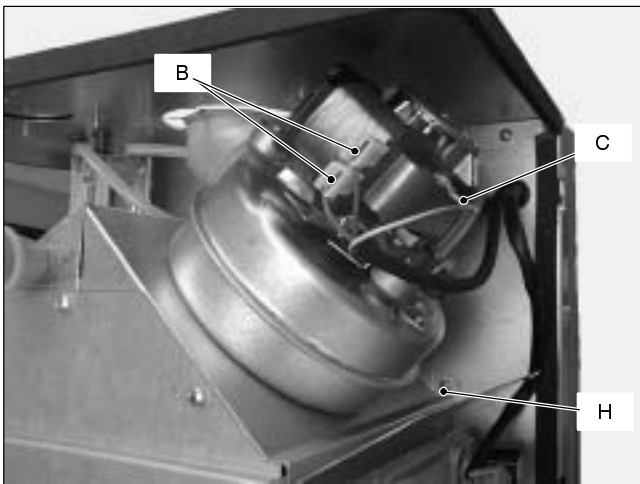
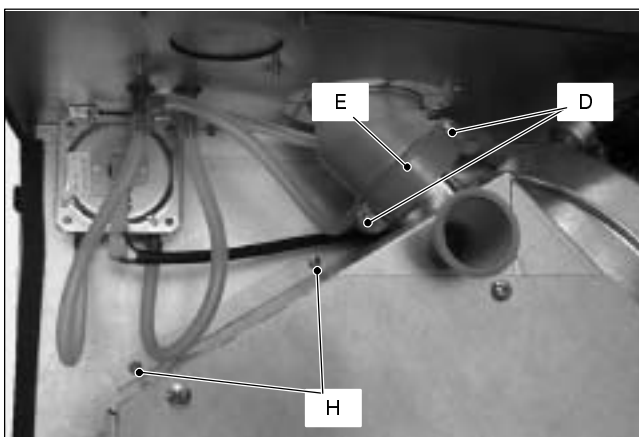

Fig. 65
Fig. 69
- 2 Disconnect the connectors B (Fig. 65) and measure the electrical resistance of the motor that has to be about 32Ω – M90.24S and 30Ω – M90.28S (at ambient temperature).
- 2 Disconnect the connectors B and the earth connection C (Fig. 65).
- 4 Unscrew the screws *D* and remove the clamp *E* (Fig. 69).
- 5 Unscrew the screws *H* (Fig. 65 and Fig. 69), and remove the flue hood with the Fan.